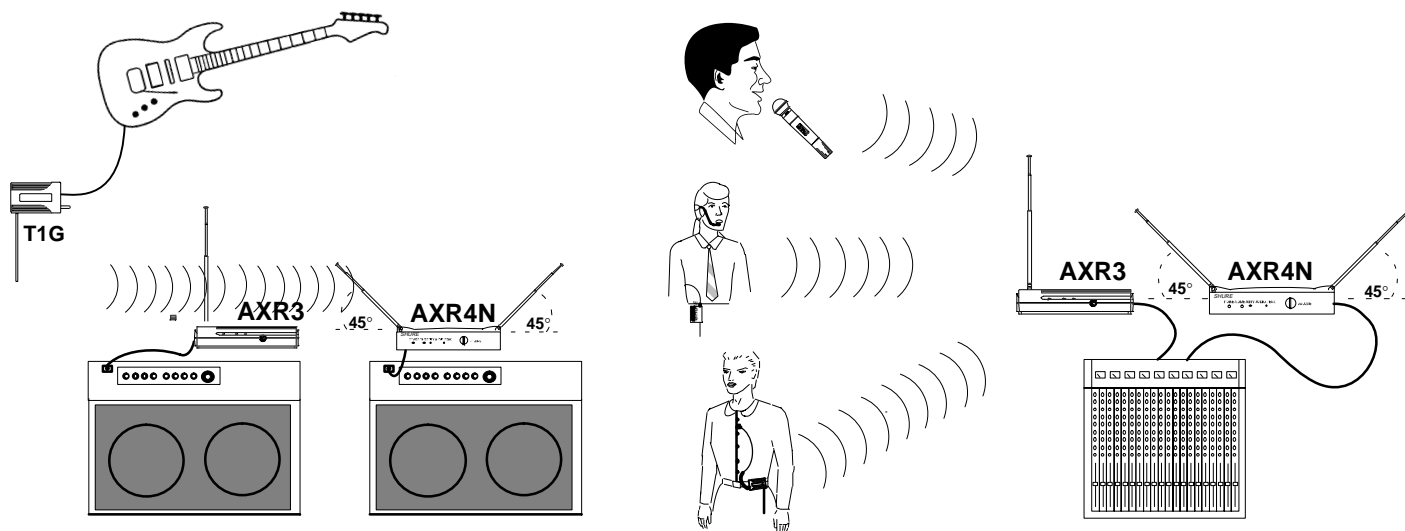

FIGURE 8. WIRELESS SYSTEM OPERATION
2. Connect the receiver output. **The Guitarist:** plug a standard guitar cable (two provided) into the receiver's output connector. Plug the other end into a guitar amplifier, as shown in Figure 8. **AXSHW, AXS31, AXS58 or AXSLWD:** Use a cable with a 1/4 inch phone plug (**AXR3, AXR4N**) or a female XLR connector (**AXR4N**) to connect the receiver to a mic level input of a mixer or PA system, as shown in Figure 8.
3. Extend antenna(s). **AXR3:** The antenna should be fully extended and vertical, as shown in Figure 8. **AXR4N:** The antennas should be fully extended and angled away from each other, at an angle of 45 degrees from vertical, as shown in Figure 8.